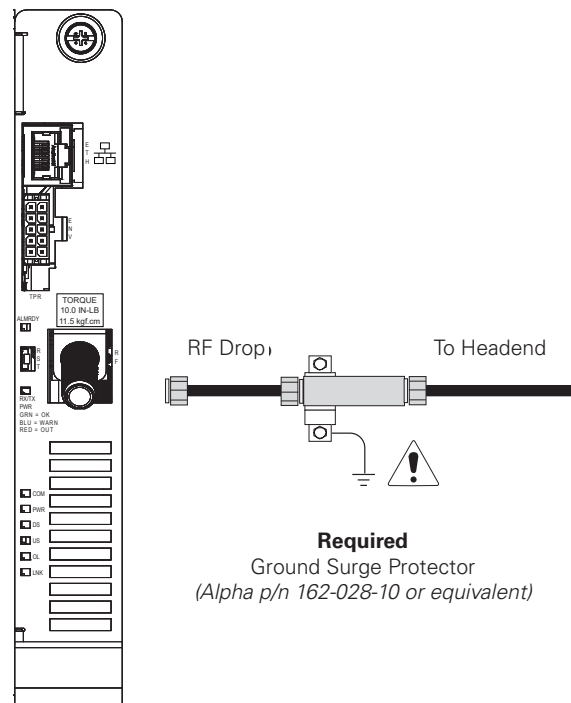

Fig. 7-5, RF Cable Installation
12. Connect the RF drop as shown in **Fig. 7-5, RF Cable Installation**. The DOCSIS® specification for downstream power level is ± 15 dBmV. However, for optimal performance, set the level as close to 0 dBmV as possible. RF attenuators may be required to obtain optimal downstream (receive) RF levels.